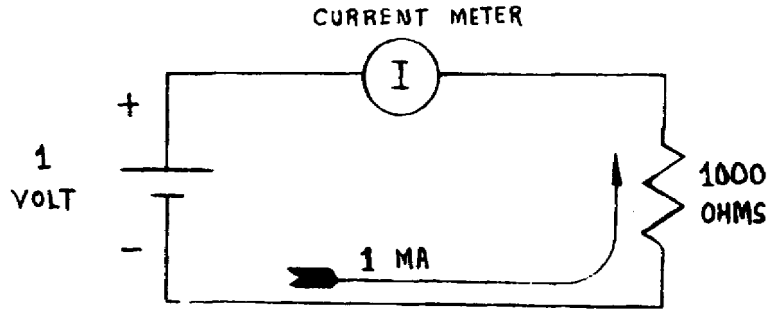
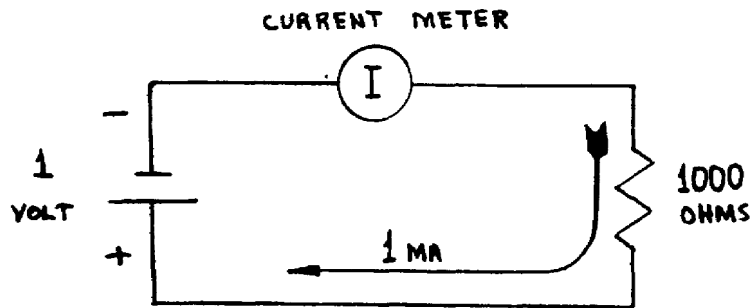
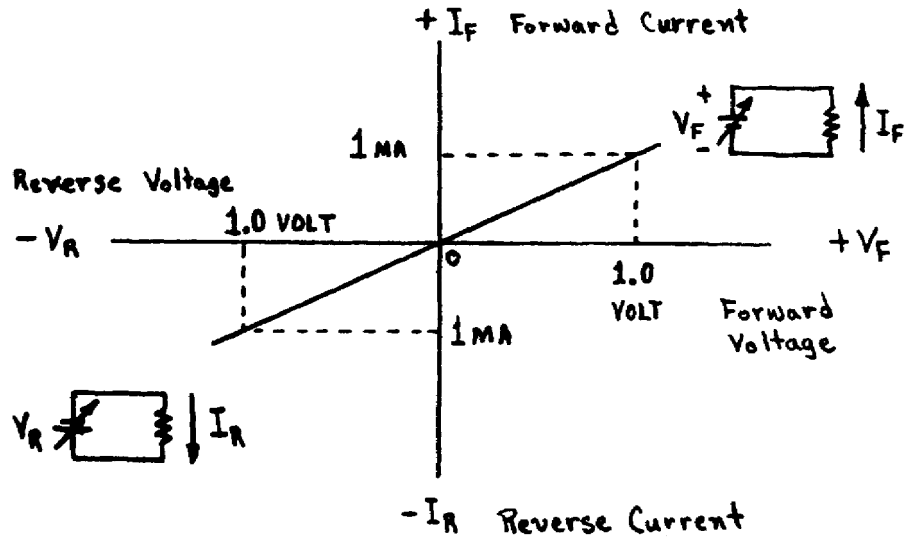

Figure 5. Forward current.
Figure 6. Reverse current.
Figure 7. Resistance plot.
g. Figure 5 illustrates a simple circuit in which one milliampere (1mA) of electron current will flow. The zero center scale current meter deflects to the right and indicates a 1mA reading. If the battery potential is reversed (fig 6), 1mA of electron current will flow through the resistor in the opposite direction. The zero center scale current meter will be deflected to the left and indicate 1mA of current. You should note that for this discussion one current has been called forward current (fig 5) and the other reverse current (fig 6). Recording the voltage current relationship which exists illustrates the linearity of resistive circuits (fig 7).